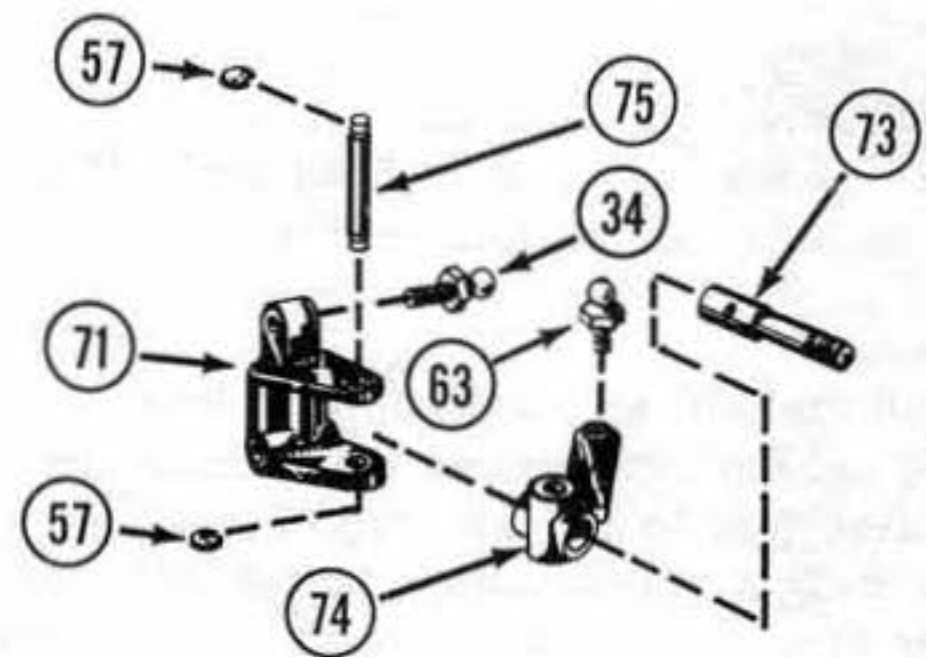

FIG. 30
8. Slide front axle (73) into large hole in spindle (74 & 103), as shown making sure king pin holes are aligned vertically. *NOTE: the spindles are marked left (103) & right (74). Fig.30
9. Attach spindle assembly (74) to the spindle carrier (71) using a 1/8" X .690 hinge king pin (75). Secure with two 1/8" E-clips (57). *NOTE: Letter R & L should face up on spindle arm. Fig.30
10. Thread a 3/8" studded ball (34) into the top of the spindle carrier (71). Thread a 3/16" studded ball (63) into each spindle arm (74 & 103). Fig.30